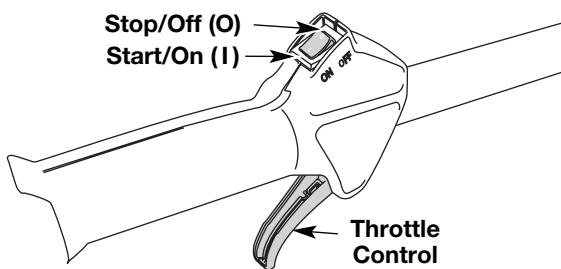

Fig. 8
3. Make sure the On/Off Stop Control in the ON (I) position (Fig. 8).